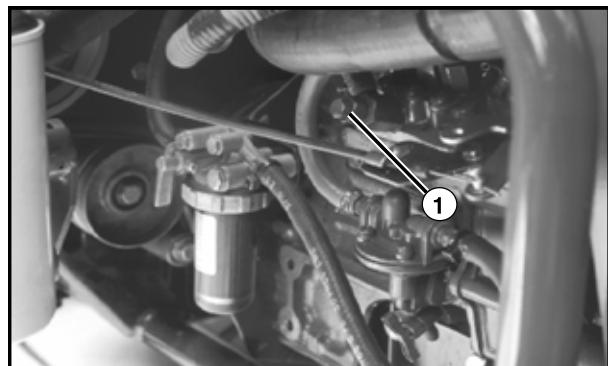

Figure 9.15.2
- 4. Open the air vent on top of the injection pump, open air vent only when engine is NOT running (See Fig. 9.15.2).